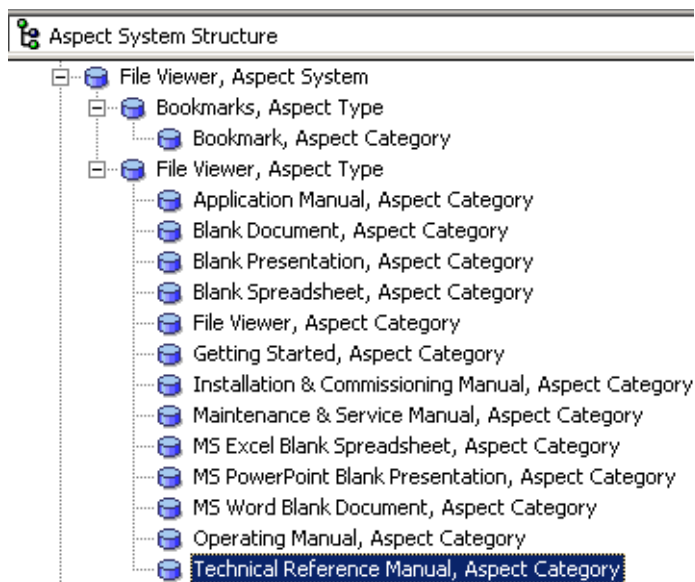

Figure 232. Technical Reference Manual, Aspect Category Object
4. Select the Technical Reference Manual object, see Figure 232.